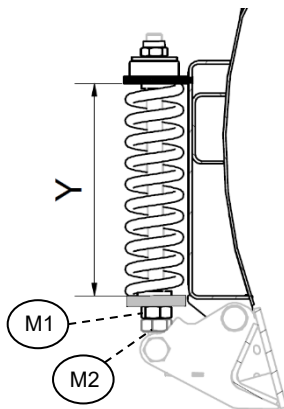

Figure 20
The default pretension, i.e. spring Y dimension, is 330 mm – see Figure 20.
- 1) Loosen nuts M1 and M2 in the lower part of the spring – see Figure 20
- 7) Tighten the lower nut M2 against nut M1 to lock the spring – see Figure 20